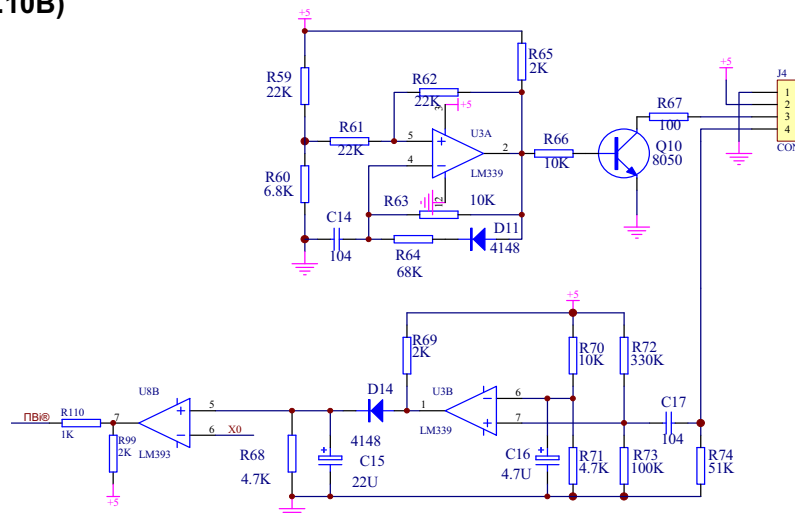

Fig. 10B Circuit Diagram of Hopper Sensor
Under the natural light, if there is no banknote on the surface of the hopper sensor, the 4Pin of J4 (Fig.10A) or the 4Pin of J9 (Fig.10B) should be below 1V. But if there is any banknote on its surface , it requires that the sensor sent out the reaction signal and after arranging the signal until $V_c \geq 3V$.
(2) NEW PRO85, PRO85U (Fig.10B)